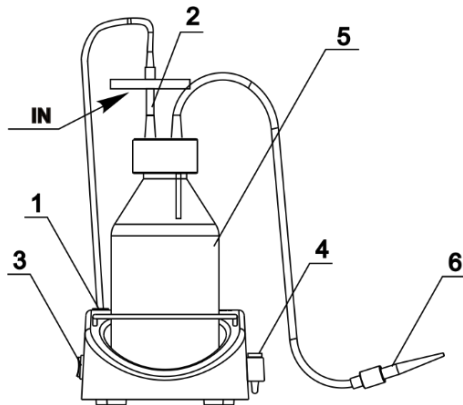
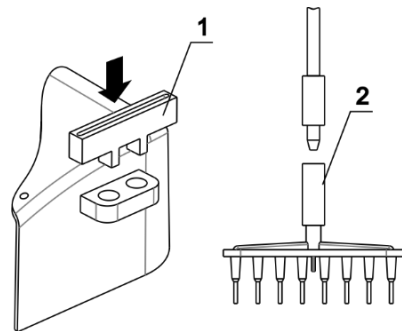

Figure 1. Assembled FTA-1
Figure 2. Installation of MA-8 aspiration tip
- Install the trapping flask (fig. 1/5) on the unit.
- Assemble the lid, aspiration tubing and filter set (fig. 1/2). Attach aspiration tip (fig. 1/6) to the tubing.
Caution! Position the filter with the **IN** marking pointing towards the unit (fig. 1/2).
- Connect the filter tubing to the pump (fig. 1/1) located at the top of the base behind the trap flask, by turning the fitting clockwise.
- Place the microtubes for aspiration tip into the holder (fig. 1/4).
- 4.3.1. **Optional MA-8 aspiration tip installation.** Remove microtubes and aspiration tip from the holder (fig. 1/4). Place MA-8 storing holder (fig. 2/1) into the holder. Remove aspiration tip (fig. 1/6) from the aspiration tubing and connect the **MA-8** aspiration tip (fig. 2/2). Store the aspiration tip in the new holder.
- 5.2. Turn the **Power** switch (fig. 1/3 or 7/2) to the position **I** (on). The pump starts working.
- 5.4. Touch the surface of the liquid with the aspiration tip (fig. 1/6, 5/1 or **MA-8**) to remove the liquid.